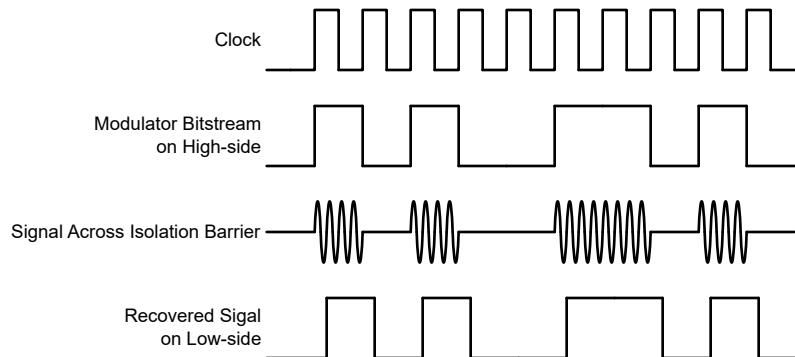

Figure 6-3. OOK-Based Modulation Scheme
The AMC3306M25-Q1 uses an on-off keying (OOK) modulation scheme, as shown in Figure 6-3, to transmit the modulator output bitstream across the SiO₂-based isolation barrier. The transmit driver (TX) shown in the *Functional Block Diagram* transmits an internally generated, high-frequency carrier across the isolation barrier to represent a digital one. However, TX does not send a signal to represent a digital zero. The nominal frequency of the carrier used inside the AMC3306M25-Q1 is 480MHz.